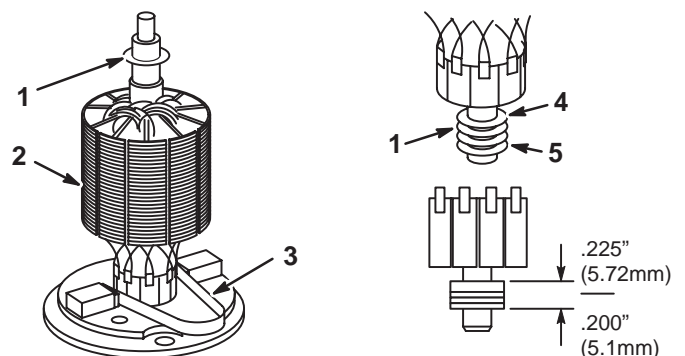

Fig. 100 – Armature Assembly to End Cap
4. Add gray plastic washers to obtain dimension shown in Fig. 100, inset.